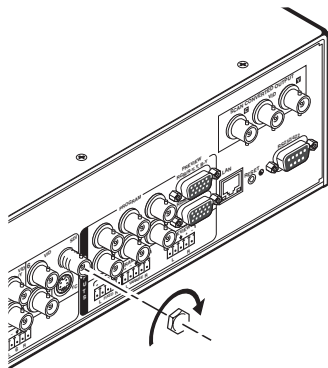

Figure 5 — Secure the board to the rear panel
7. Secure the board to the back panel with the included hex nut (figure 5).